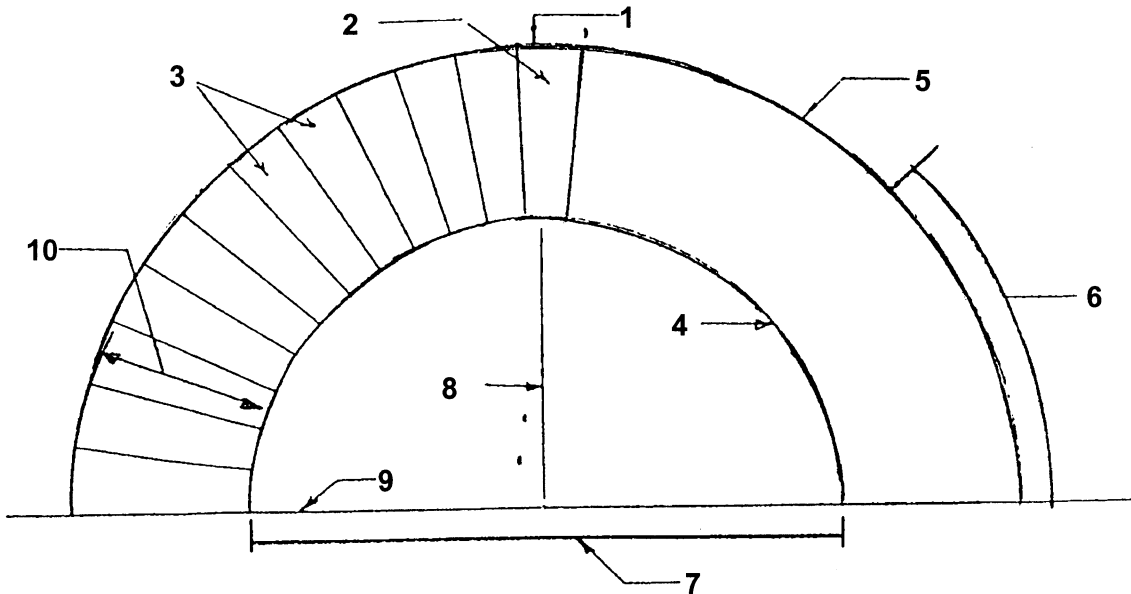

Figure 1
- 4.4 Name the different parts of the arch illustrated in **Figure 1**. Write down the numbers 1 – 10 with the correct answer next to the number in your answer book. (10)